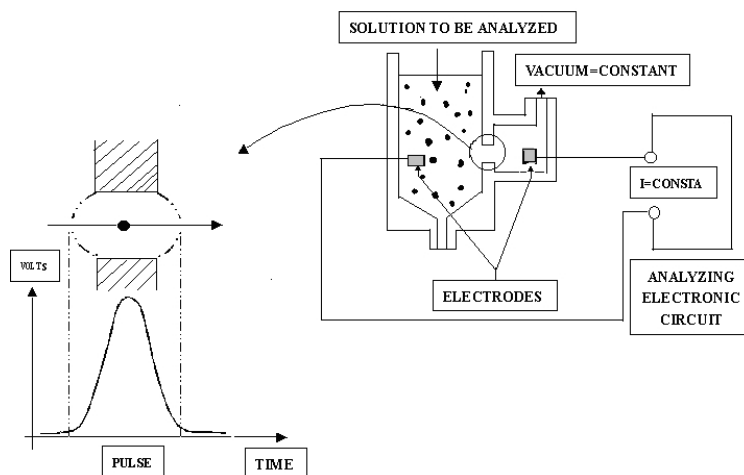

Figure 1-5
- c) When cells pass through the aperture, the resistance between the electrodes increases as the cell volume increases, as shown in figure 1-5. According to the Ohm formula: $U=RI$ (U =Voltage I =Current R =Resistance), If I is a constant, U increases as the cell volume increases.
- d) Passing through the magnification circuit, the voltage signal will be magnified and the noise will be filtered, then you will gain the analytical results, as shown in figure 1-5.